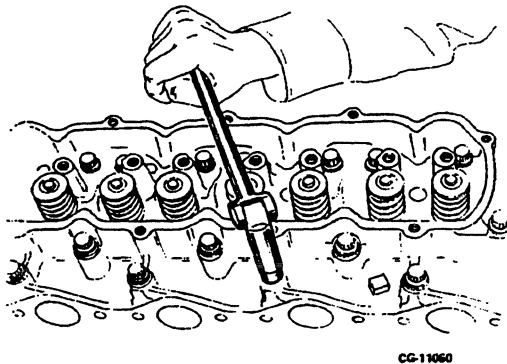

Figure 3.14. Cylinder Head Bolt Removal
1. **Engines w/Serial No. 823 762 and Below:** Remove the seventeen cylinder head "plain head" mounting bolts and washers. Refer to Figure 3.14.
**Engines w/Serial No. 823 763 and Above:** Remove the seventeen cylinder head "flange head" mounting bolts. Refer to Figure 3.14